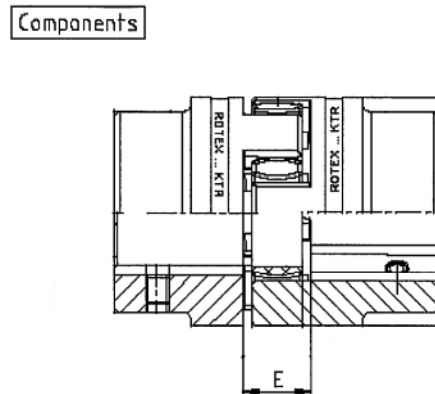
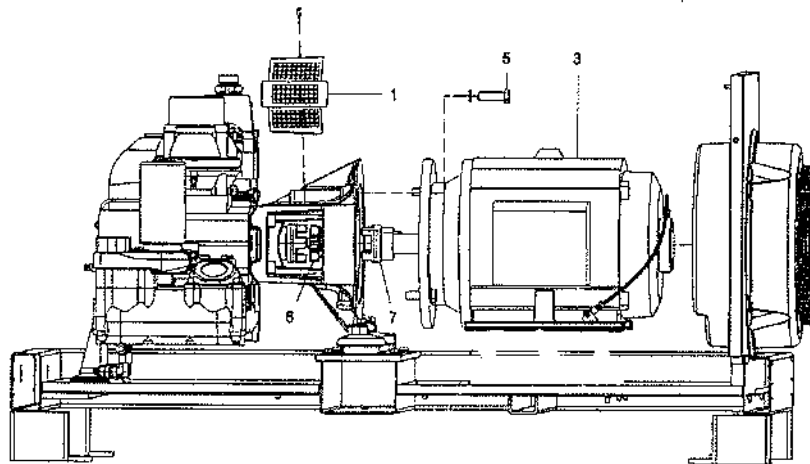

Figure 8-2 – COUPLING ELEMENT
Figure 8-3 – MOTOR REMOVAL HARDWARE
- After engaging each hub on the matching recesses of the coupling element, check that the gap between the hub flats (see dimension $\frac{E}{2}$ on Figure 8-2) is within 0.79/0.85 in (20.0/21.5 mm). A smaller gap will produce abnormal wear of the element by friction and excessive thermal expansion. The latter could cause compressor damage by axially displacing the input shaft. Make sure that keys are in proper alignment with key-ways on hubs.
- Remove inlet filter duct above motor body (3).
- Remove service hatch and metal panel on opposite side of motor body (3).
- Remove coupling guard (1)
- Unfasten bolts securing (cooling fan) support to base frame and move support away from main motor (3).
- Remove motor bolts (5) and move motor away from the adaptor flange.
- After engaging each hub on the matching recesses of the coupling element, check that the gap between the hub flats (see dimension $\frac{5}{16}$ on Figure 8-2) is within 0.79/.85 in (20.0/21.5 mm). A smaller gap will produce abnormal wear of the element by friction and excessive thermal expansion. the latter could cause compressor damage by axially displacing the input shaft. Make sure that keys are in proper alignment with key-ways on hubs.
- With the help of insulating gloves, remove the hub and tool assembly from the heat source and quickly bring it to the companion shaft. Engage the coupling hub bore onto the companion shaft and slide it until the latter contacts the stop. Refer to Figure 8-2 and Figure 8-3 for details of typical tool aligning the coupling hub onto the compressor and motor shafts, respectively. Note that hub-to-shaft alignment distances are different.